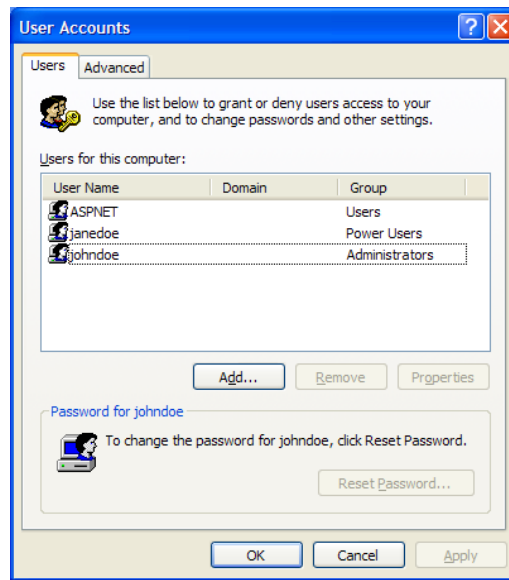

Figure 1 User Accounts dialog box
- 1 Go to **Start > Control Panel** and double-click **User Accounts**. The User Accounts dialog box will appear as shown in **Figure 1**.